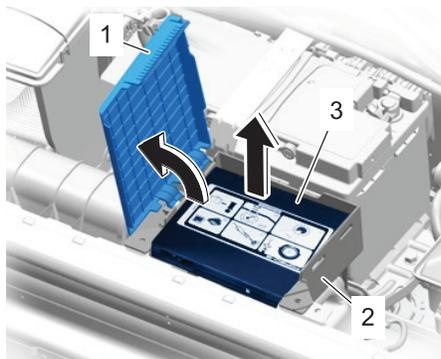

Fig. 3 Compressor removal
3. Open and remove cover (1) on holder (2) for compressor, **Fig. 3**.
4. Remove compressor (3) from holder for compressor, **Fig. 3**.